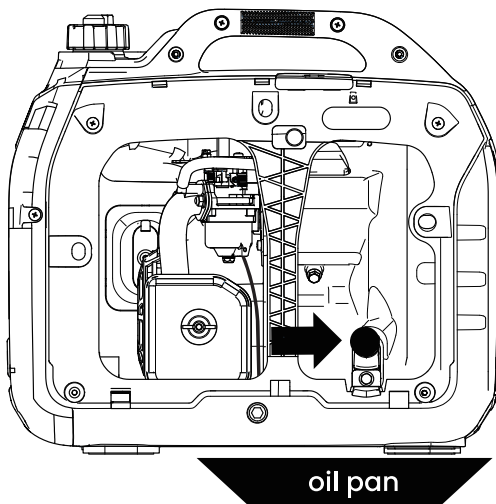

Figure 12: Place oil pan under oil fill/drain plug
4. Place oil pan (or suitable container) under the oil fill/ drain plug (see Figure 12).